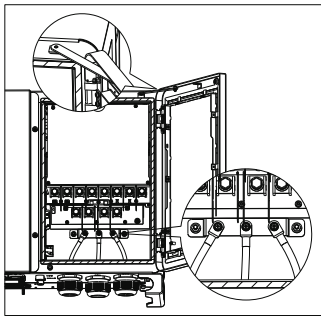

Fig 6.10
1. Connect a ground cable to the copper grounding bar. Fig 6.10 shows the position of the grounding bar inside the right cover plate;
1. Connect the ground cable to the battery power ground bar, as shown in Fig 6.10;
- 1> Connect the ground cable before connecting the battery cable; the ground point is shown in Fig 6.10.